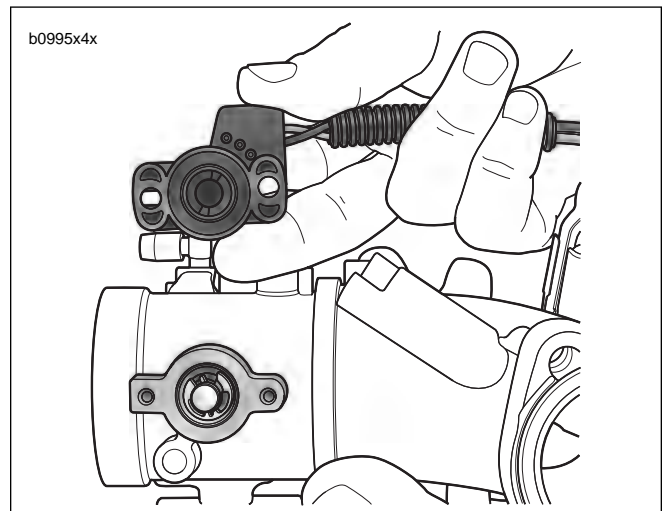

Figure 4-82. Throttle Position Sensor
3. See Figure 4-82. Remove two screws and washers to detach TP sensor.
1. See Figure 4-82. Apply LOCTITE 222 (purple) to threads of fasteners.